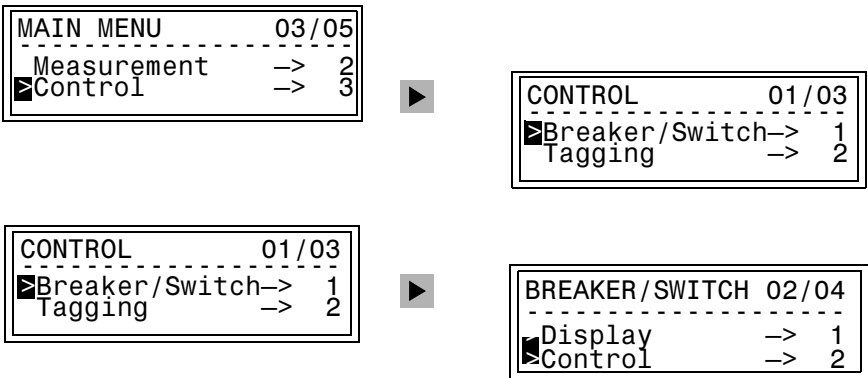

Figure 4-9 On-site control using the operator control panel
- **Main menu** → **Control** → **Breaker/Switch** → **Control** → Equipment and intended direction **ON** or **OFF** (Figure 4-9), or